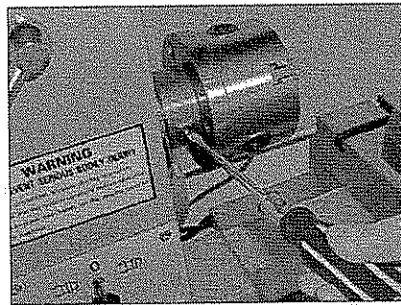

Fig. 28
- 7.11.3. Mount the spindle chuck along with the flange on to the spindle (as shown in Fig. 28), and then refasten the pushing screw with a screwdriver.